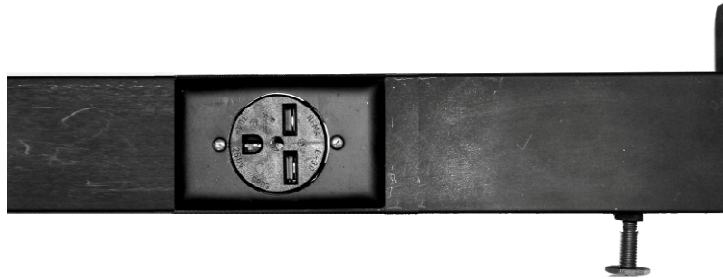

Figure 10 – Install Receptacle Cover
Step 8 — Use factory supplied screws to fasten “Receptacle” cover plate to Receptacle on the subbase as shown in figure 10.